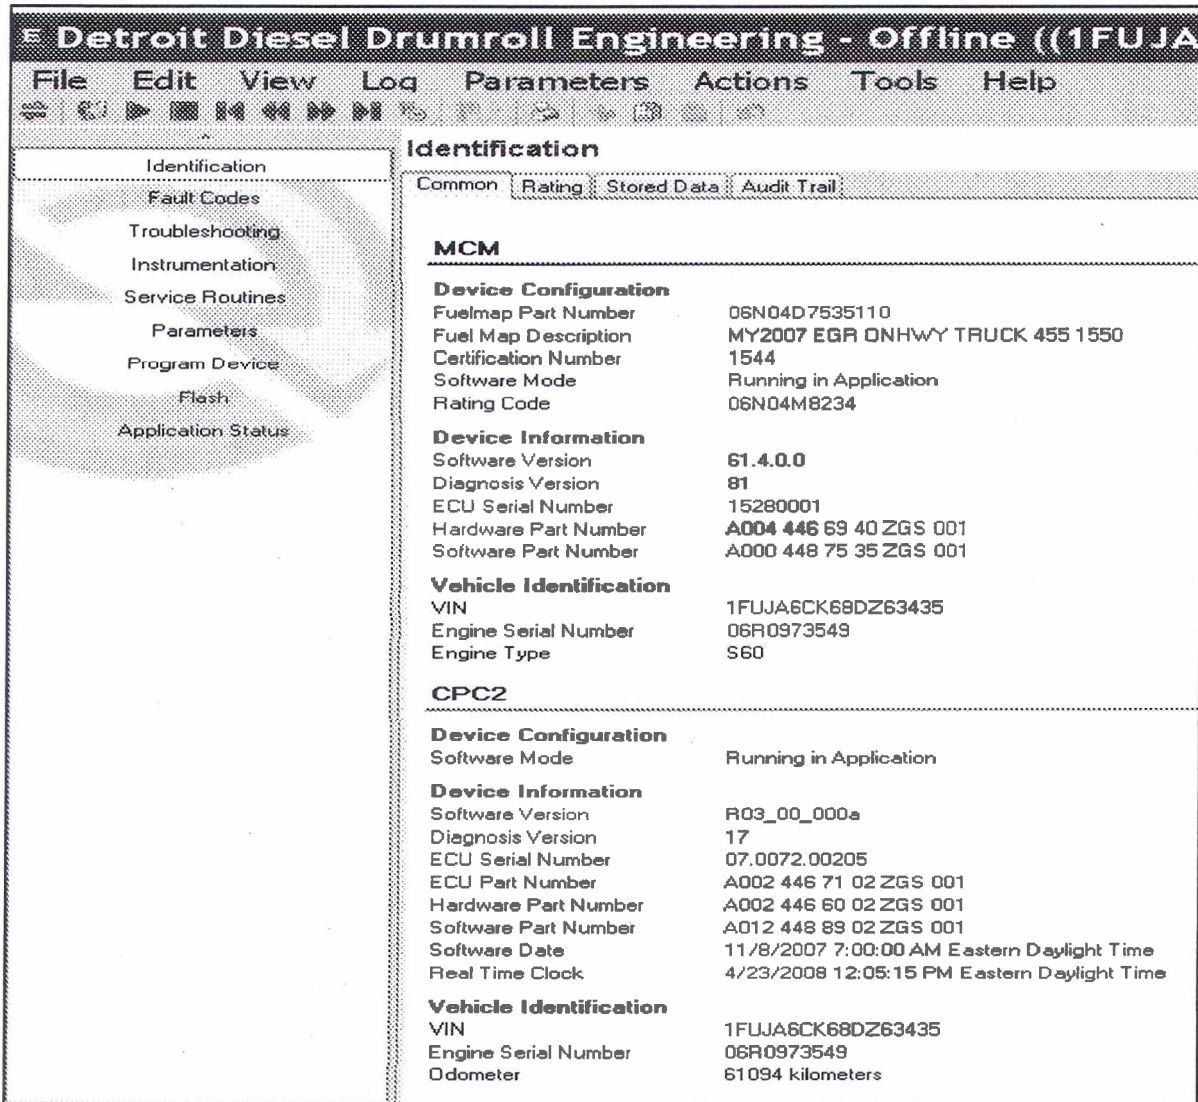

Figure 1 – Software and Fuel Map Version Number
3. Using the "Identification" screen in DDRS, check the MCM software level and fuel map version number. See Figure 1. In this example, the MCM software level is 61.4.0.0 and the fuel map version is the last three digits of the fuel map part number which is 110.
5. Using the "Identification" screen in DDRS 7.04, check the CPC software level. See Figure 1. In this example, the CPC software level is r3.00. If the CPC is not at r4.03 software or higher, program it to r4.03 using the "Update Device Software" option. Select "No Charge", then "Description", and enter "10C2" in the "Provide Reference" box.